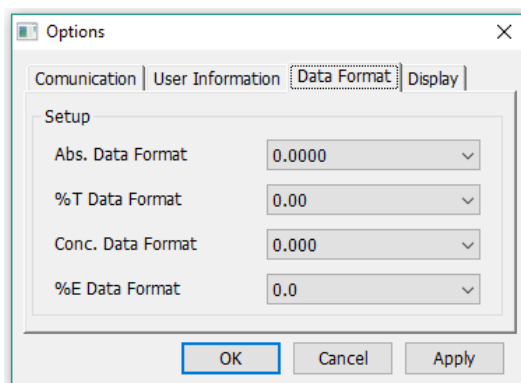

Fig. 2.7-2 Data Format
- **Data Format tab:** you can choose how the results are displayed (Fig.2.7-2);